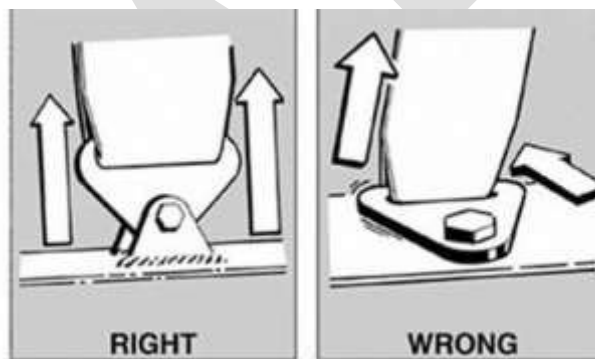

Figure B- 38: Driver Harness, Lap Belt Tab Orientation
- The frame lap belt tabs shall be no less than 2.3 mm (0.090 in.) thick and configured for double shear mounting. Frame lap belt tabs configured in bending are explicitly prohibited. See Figure B-38.